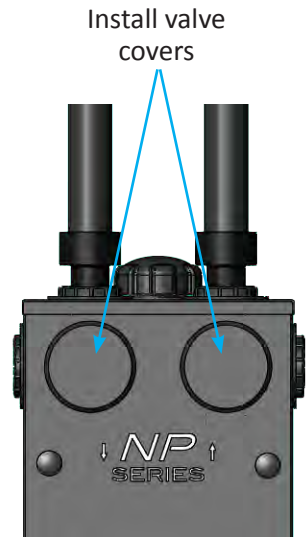

Figure 19: Valve covers
7. Install all valve face covers (Figure 19).
17. Replace valve face covers as shown in Figure 19.